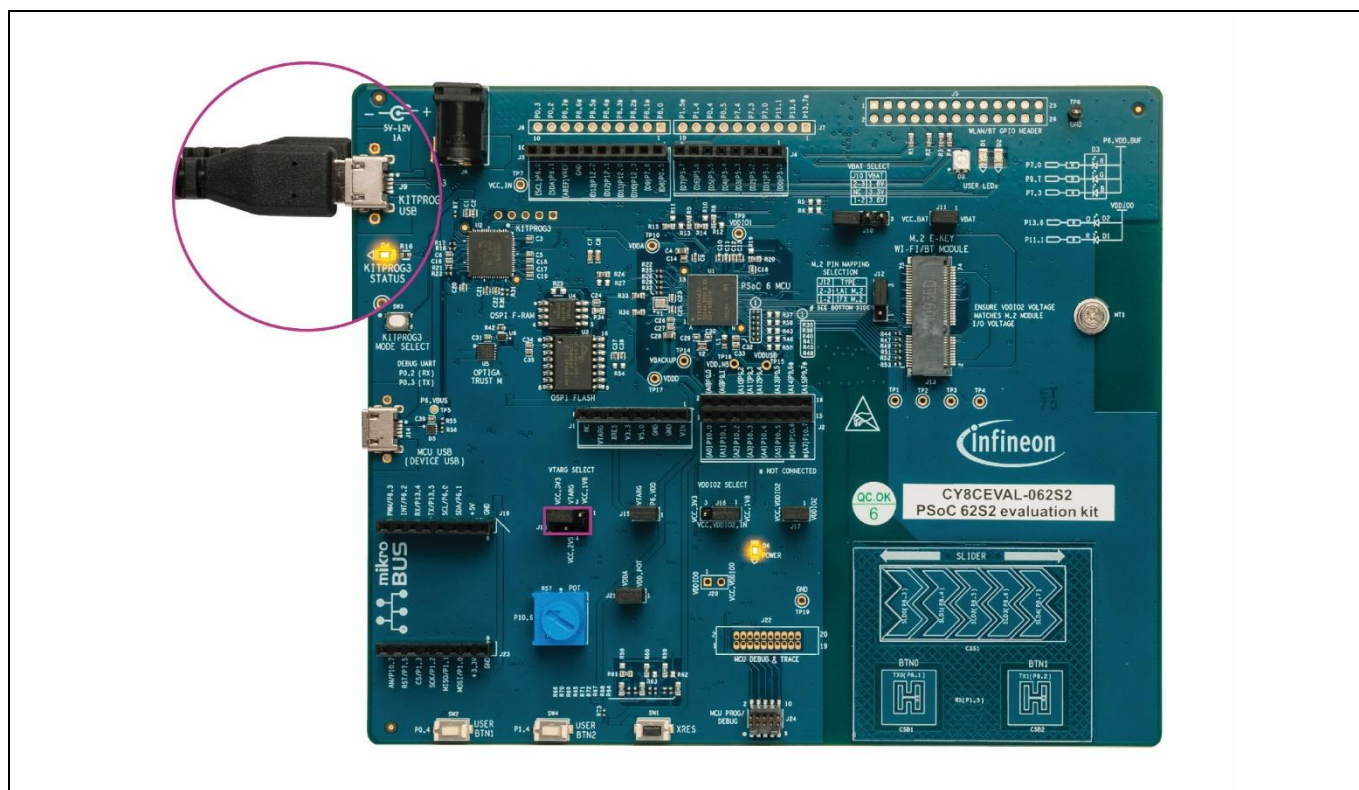

Figure 9 Connect USB cable to USB connector on the board
1. Connect the board to the PC using the provided USB cable through the KitProg3 USB connector, as shown in Figure 9. It enumerates as a USB Composite Device if you are connecting it to your PC for the first time.